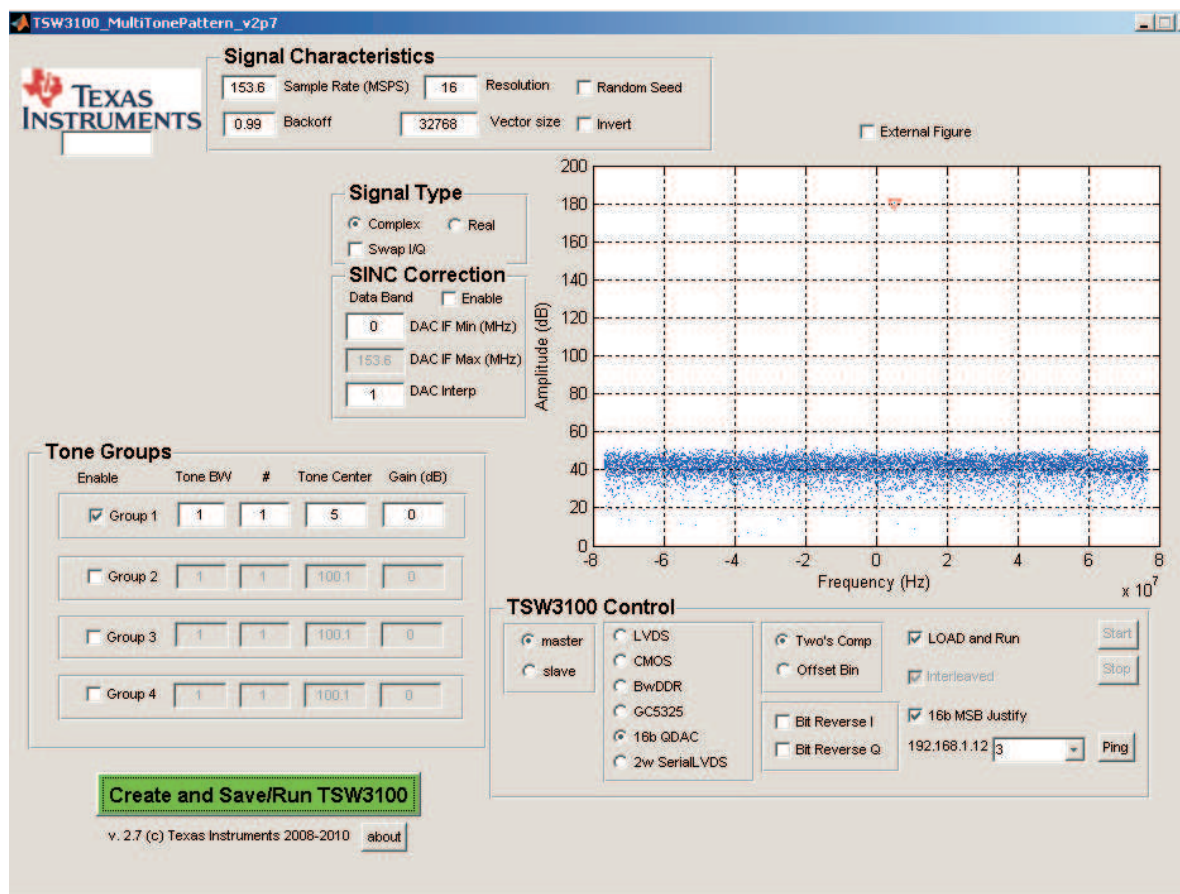

Figure 12. TSW3100GUI After Waveform Created
4. Click on the green button *Create and Save/Run TSW3100*, when the TSW3100 is finished. The TSW3100 appears as shown in Figure 12.